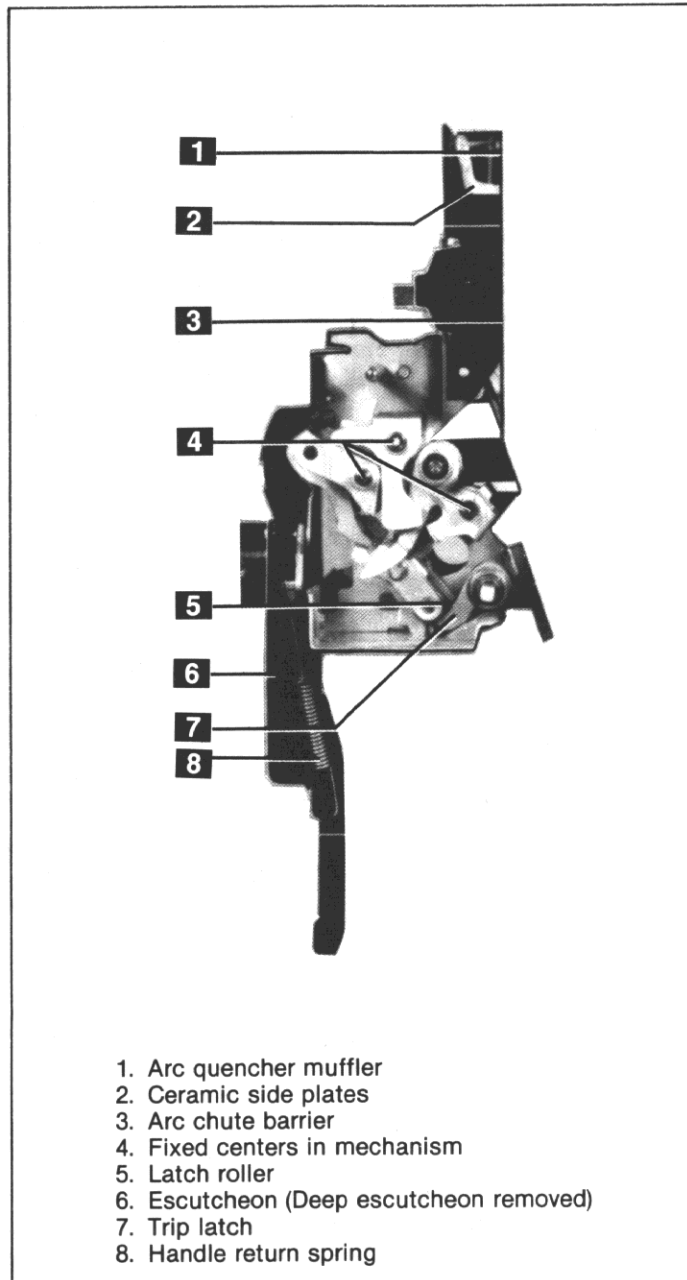

Fig. 8. Manual mechanism
The breaker mechanism is tripped by the displacement of the trip latch (7), Fig. 8. Looking at the breaker from the right-
If the breaker mechanism does not function properly, it is best to first perform the available remedial measures listed in the Troubleshooting Chart in Section 4. One of the remedies listed is that of proper mechanism latch engagement, i.e., the amount of engagement between the latch (7), Fig. 8, and latch
5. Remove handle reset spring (8), Fig. 8., and the escutcheon is free of the breaker.